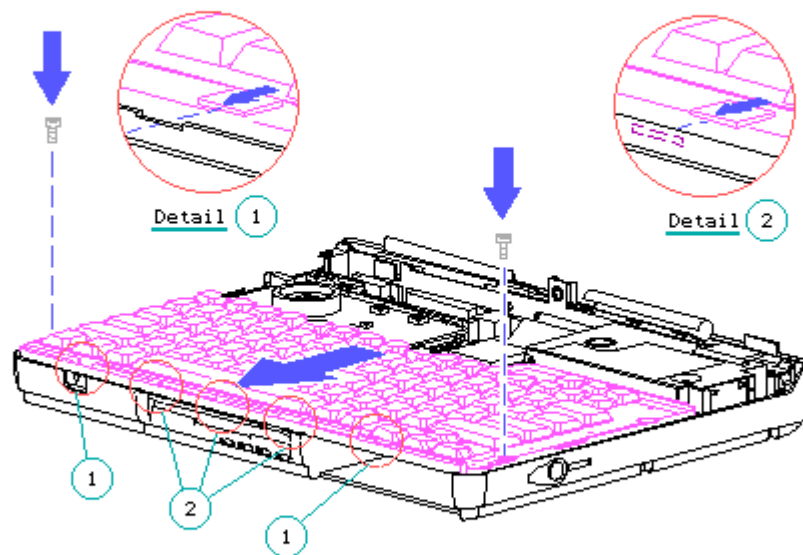

Figure 4-24. Replacing the Keyboard
front edge of the computer (Figure 4-24).
**IMPORTANT:** To ensure that the keyboard is reinstalled correctly, be sure that the metal tabs on the keyboard's front edge are properly aligned (Figure 4-24). The two tabs on the outside [1] go in the notches on top of the plastic edge at the front of the computer. The three tabs in the middle [2] tuck underneath the plastic edge.
4. Replace the two keyboard screws (Figure 4-24).